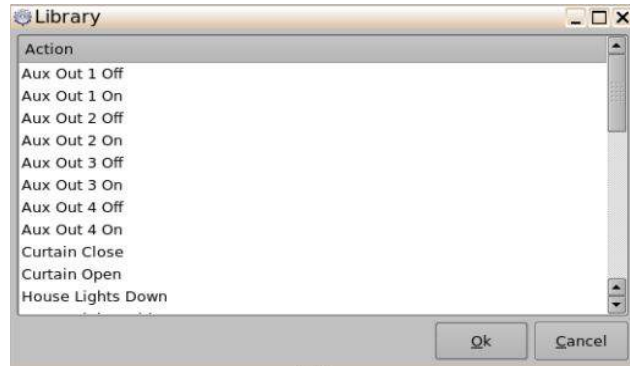

Figure 24: Library Action Window – eCNA
- The user can select the actions to manage eCNA products on the Library window (Figure 24).